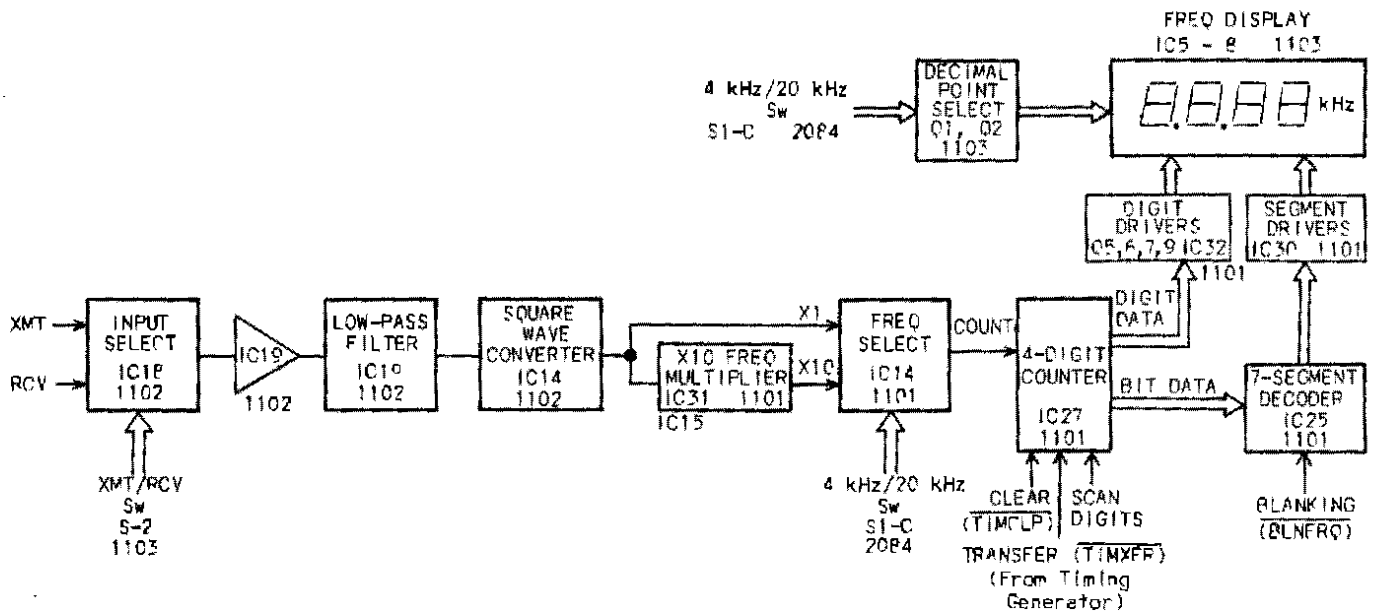

Fig. 8
E. Frequency Counter (Figure 8)